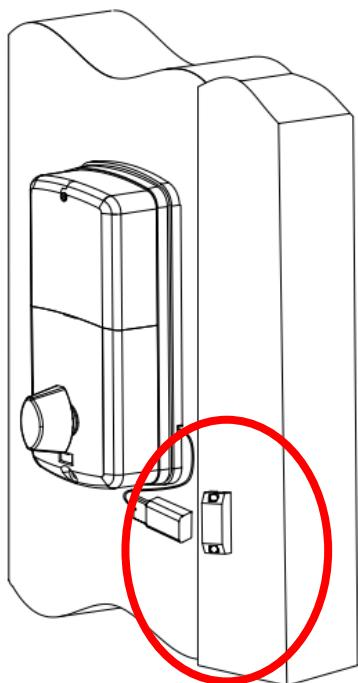
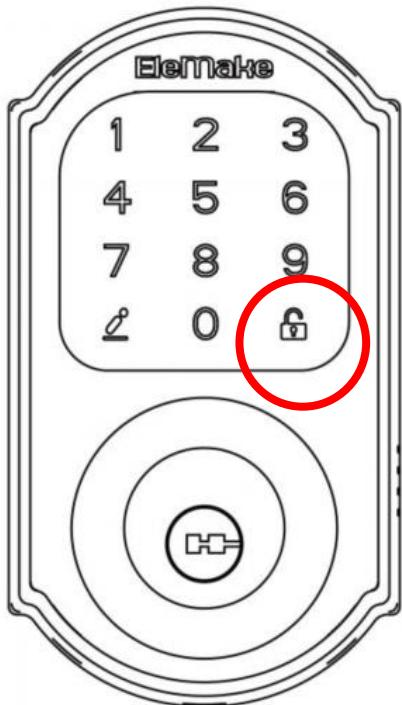

Figure P-5
Figure P-6
(6) Lock the door/Relock(See Figure P-5, Figure P-6)
b. If user want to use the manual locking/relocking, When door is closed, user touch the “lock”, deadbolt will lock. (See **Figure P-6**)